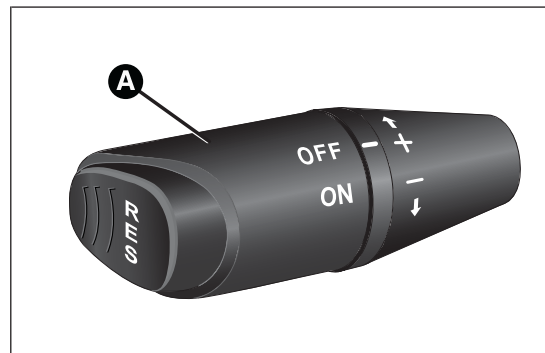

fig. 37
Turn ring nut A fig. 37 to ON. Activation is indicated by the  warning light switching on and, on some versions, by a message on the display.
- turn ring nut A fig. 37 to ON and press the accelerator pedal so that the car reaches the desired speed;